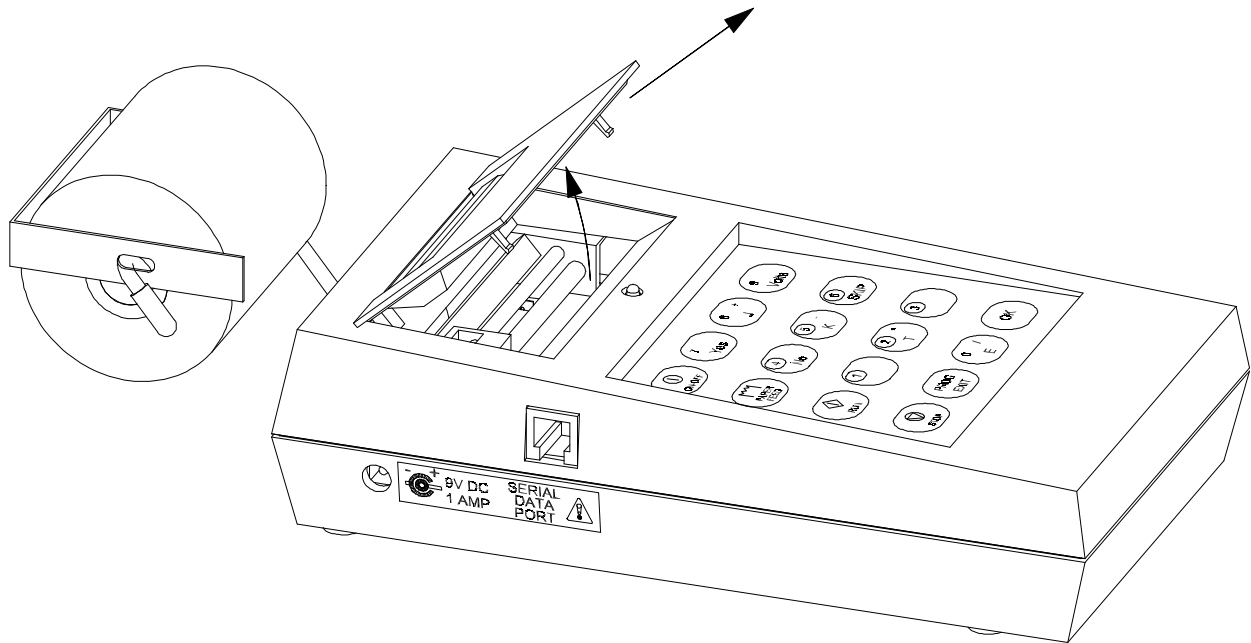

Figure 2-10
1. Lift under the bottom edge to a 45-degree angle, then pull it away from the case, as shown in Figure 2-10: